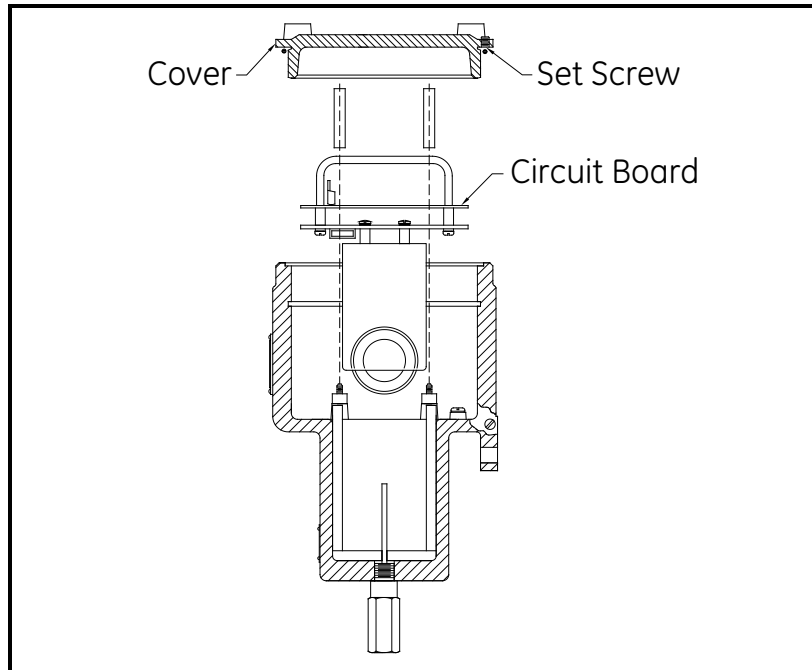
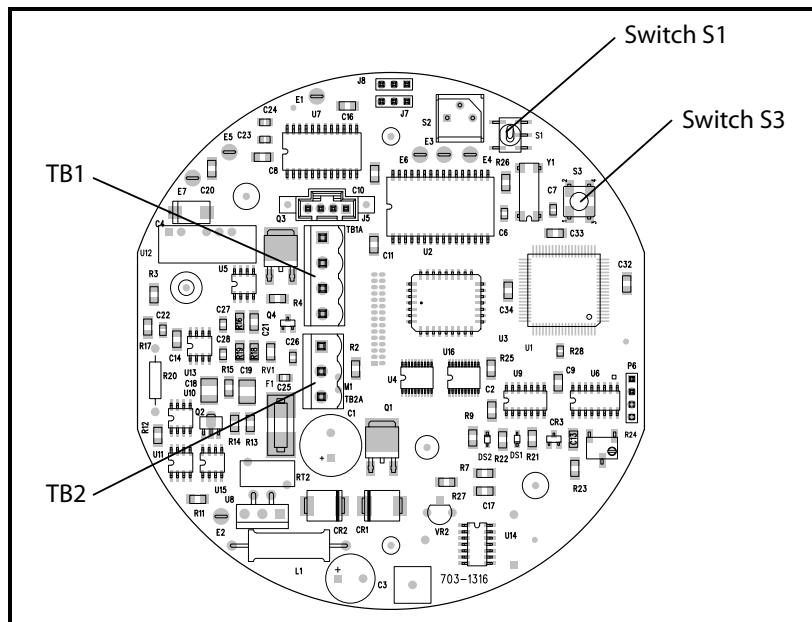

Figure 10: XMO2 Cover, Set Screw, and PCB
Figure 11: PCB Calibration Switches
To prepare the XMO2 for a field calibration, refer to *Figure 10 on page 25* and perform the following preliminary steps:
3. Refer to *Figure 11 on page 25*, and locate the following items:
Note: The XMO2 digital PCB (see Figure 11 below) is located directly below the cover (see Figure 10 above).
3. Using *Figure 11 on page 25* as a guide, locate the *Calibration Pushbutton* (Switch S3). Depress the *Calibration Pushbutton* and hold it down for 20 seconds. During this time, the green light below the *Calibration Pushbutton* will go out.
2. Using *Figure 11 on page 25* as a guide, locate the *Zero/Span Selector* (Switch S1). Set the *Zero/Span Selector* (Switch S1) to position “1” (“Zero”).
2. Using *Figure 11 on page 25* as a guide, locate the *Zero/Span Selector* (Switch S1). Set the *Zero/Span Selector* (Switch S1) to position “3” (“Span”).
To prepare for this calibration method, refer to *Figure 10 on page 25* and perform the following preliminary steps: